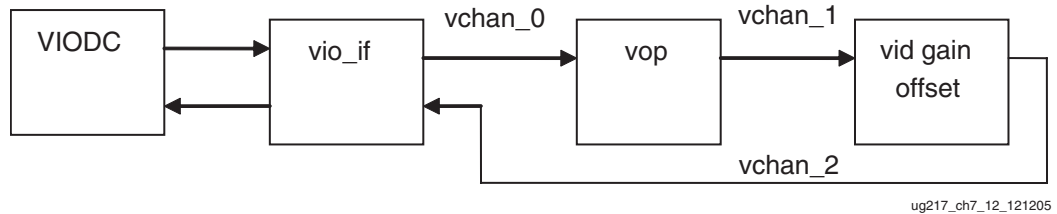

Figure 6-11: Pcore Wiring with `vid_gain_offset` Pcore Inserted into Video Pipeline
10. After configuring the pcore port names, the video buses between the pcors should be wired as shown in Figure 6-11.